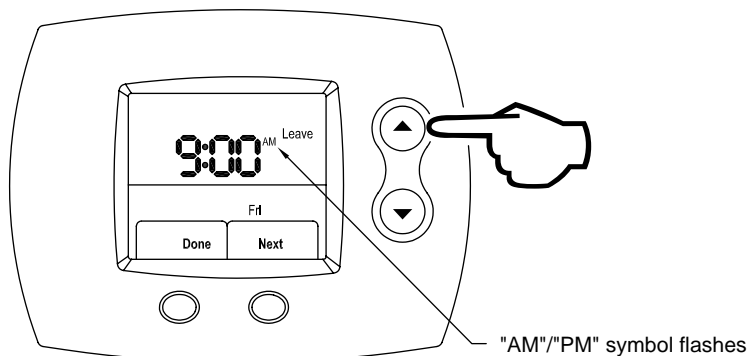

Figure 129
Step 12: Next, using the **UP** (index AM / PM) or **DOWN** (index AM / PM) buttons, edit AM / PM, as shown in Figure 129.